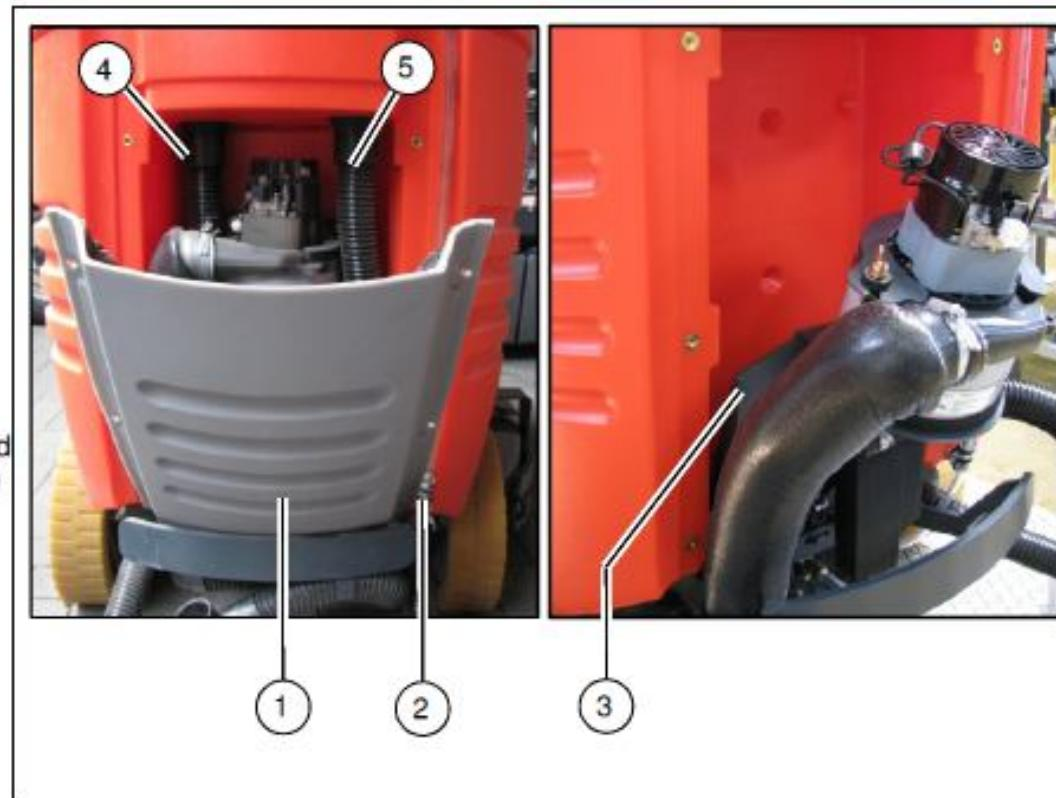
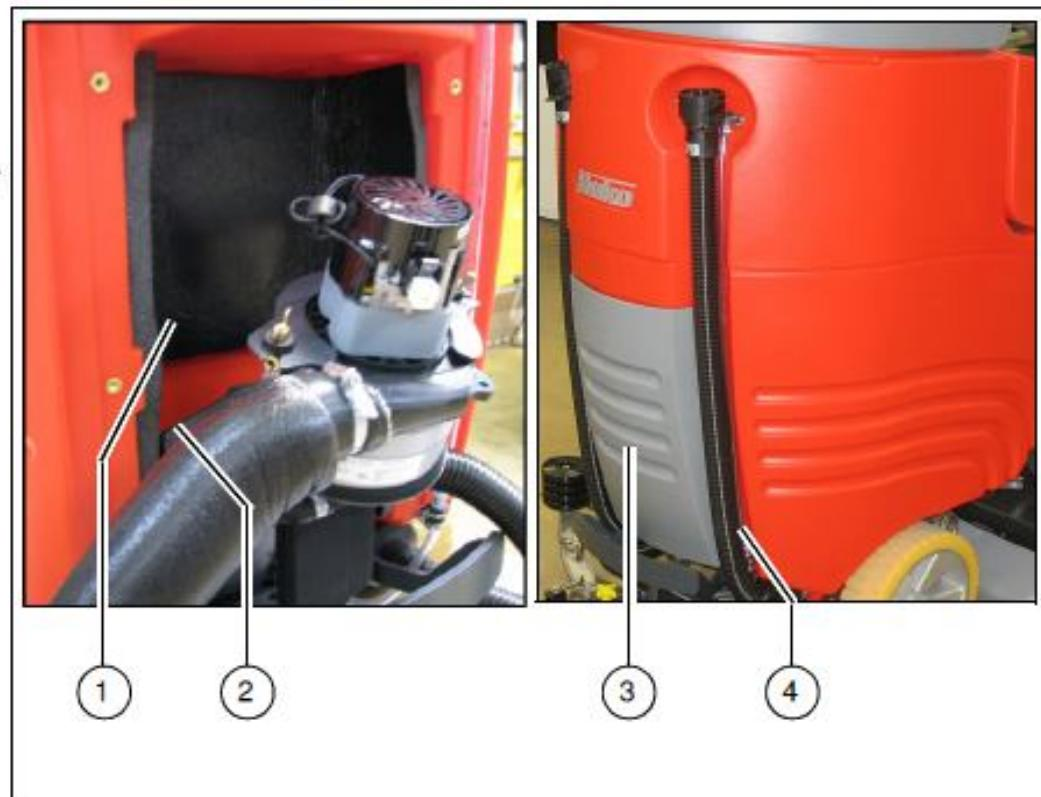

Fig. 12.1
Fig.12. 2
1. Disassemble the cover (Fig. 12..1/1) and pull off the pipe clip (Fig. 12.1/2) for the hose of the fill level indicator.
2. Unscrew the holder (Fig. 12.1/3).
3. Pull out the clean water hose (Fig. 12.1/4) and waste water hose (Fig. 12.1/5).